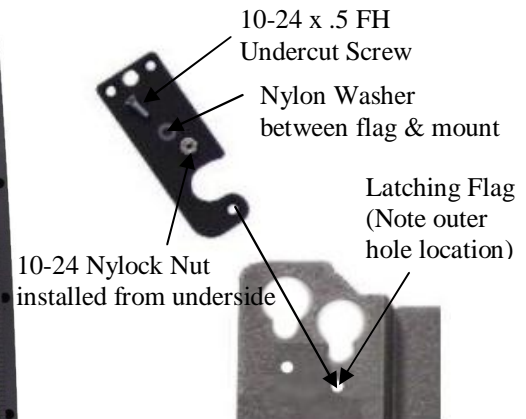

Figure 6
2. Secure latching flag to Plasma Static Mount using one 10-24 x .5 FH undercut screw, one Nylon washer, and one 10-24 Nylock nut (see Figure 6).